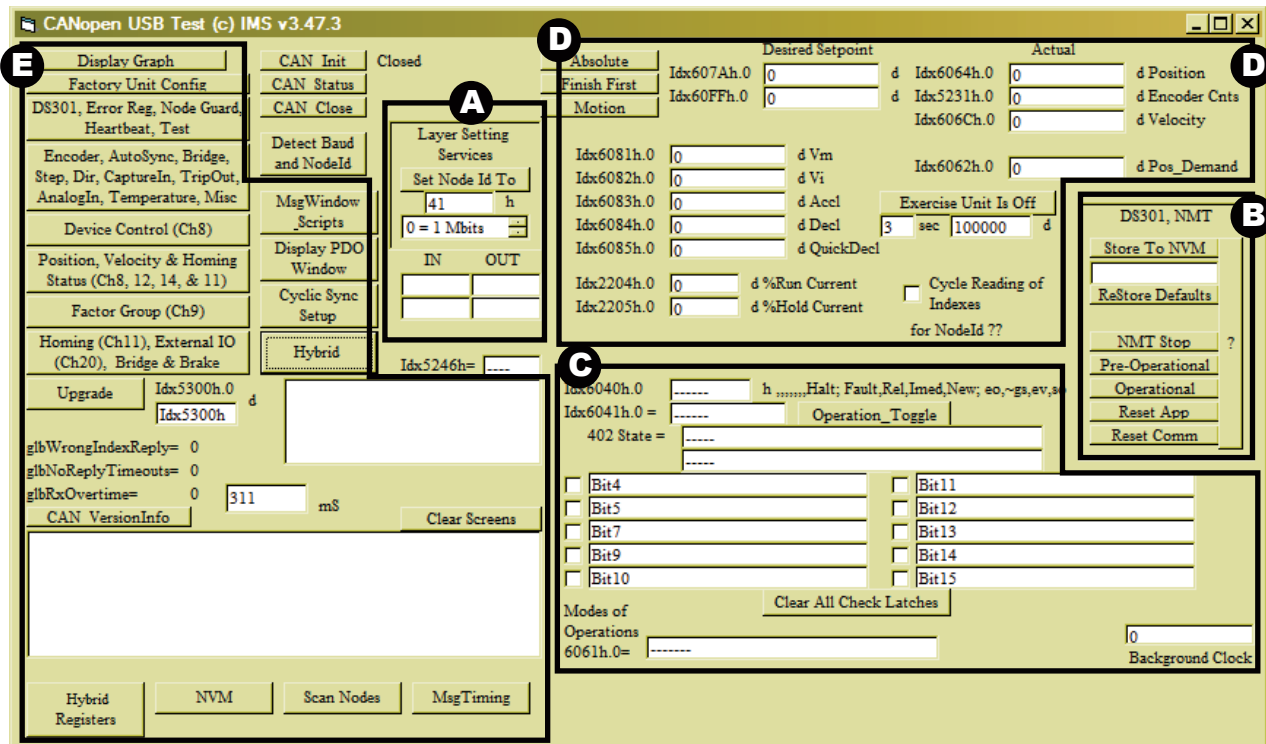

Figure 9.1: CANopen Tester main screen layout.
- Block (A) The block labeled (A) in Figure 9.1 uses LSS (Layer Setting Services) to configure the Node ID and BAUD rate. The defaults are as shown, Node ID = 41_h and BAUD = 1 Mbits
- Block (B) Contains switched for controlling the NMT protocol for switching the device through the various stages of the state machine, resetting the application, communications, restoring defaults.
- Block (C) DS-402 state specific, Control and Status word specific operation, such as selecting the operation mode, reading the check latches.
- Block (D) Profile position and profile velocity direct motion command and parameter entry and configuration.
- Block (E) Allows access to dialogs fitting specific DSP-402 and mode specific and manufacturer specific objects as well as SDO and PDO entry and receipt.